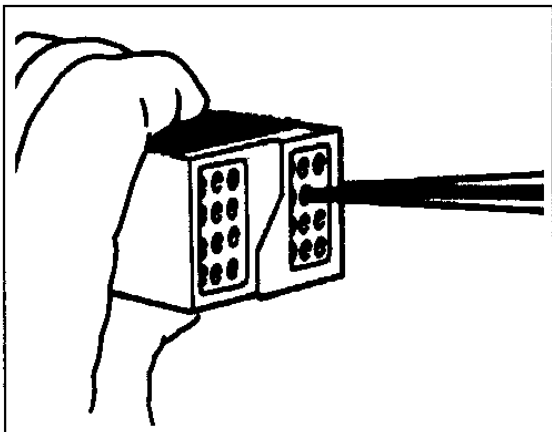

Figure 35 Pull Terminal/Wire Assembly Out of Connector
3. Pull terminal/wire assembly out of the connector (Figure 35).